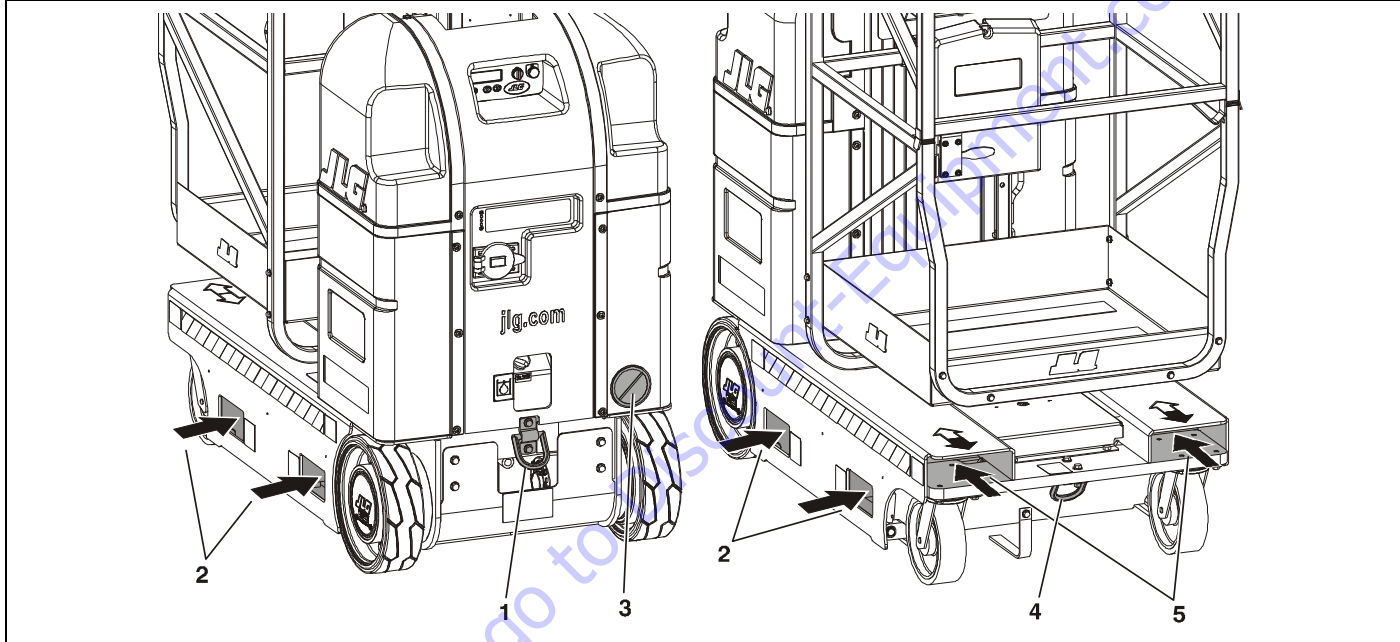

Figure 3-7. Forklift Truck Lifting Pockets and Machine Tie Down Loop Locations.
1. Secure machine with an adequate chain attached through the tie down loops located at the front and rear of machine. (See Figure 3-7.)
All MVL and MSP Model Lifts are equipped with wide fork-lift pockets running the length of the base frame and also through the sides of the base. (See Figure 3-7.) This allows the machine to be either transported around a work area or lifted onto a higher level using a standard fork-lift truck.